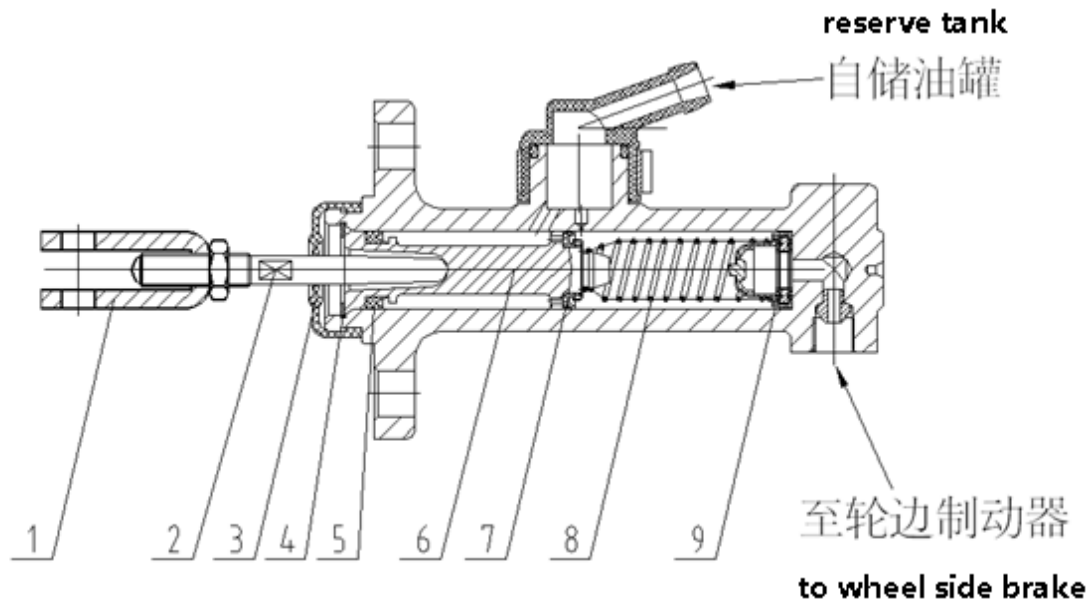

Fig. 6-2 Master Cylinder
The structure of master is shown in Fig. 6-2. It contains link rod (item 1), push rod (item 2), dust cover (item 3), snap ring (item 4), secondary cup (item 5), piston (item 6), primary cup (item 7), spring (item 8), and check valve (item 9). The master cylinder is fixed on the brake support by bolt; brake pedal arm and the push rod are connected by a cylindrical pin. As the brake pedal is pressed, the push rod pushes the piston forwards. The brake fluid flow back to the reserve tank through the return port until the primary cup blocks up the return port. After the primary cup passes through the return port, the brake fluid in the cylinder is pressurized and opens the check valve, flows to the operating cylinder through the brake pipeline. Thus each operating cylinder piston is forced outwards. This compresses or impacts the disc brake to slow or stop the truck.